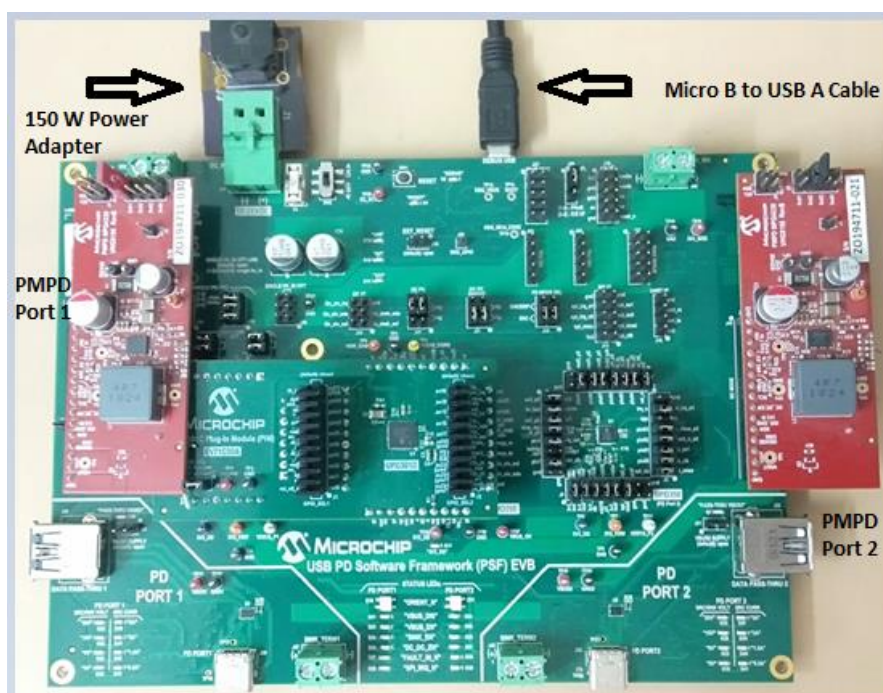

Figure 5.6 EVB-PSF Full Setup
7. The whole connection looks as in the figure 5.6